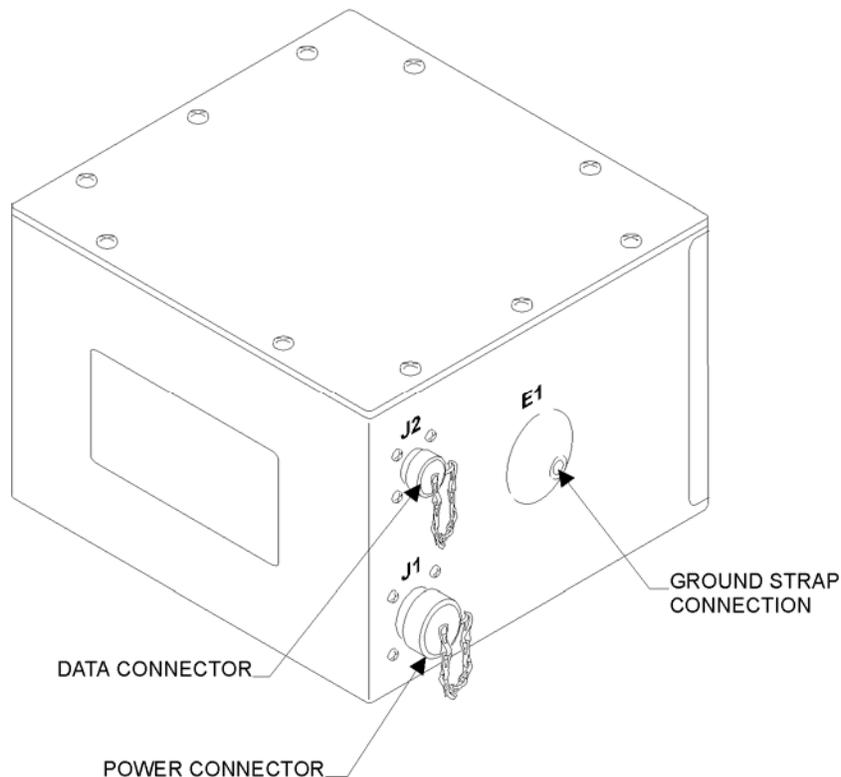

Figure 4-4. Power, Data, and Ground Strap Connections
Two cables and a ground strap are necessary for on-line printer operation. The input power cable is installed on the rear of the printer into input power connector J1 (Figure 4-4). Pin assignments for input power connector J1 are listed in Chapter 2, Table 2-1. The data cable is installed on the rear of the printer into data connector J2. Pin assignments for data connector J2 and signal names are listed in Chapter 2, Table 2-2. The ground strap is installed on the rear of the printer to ground lug E1 (1).